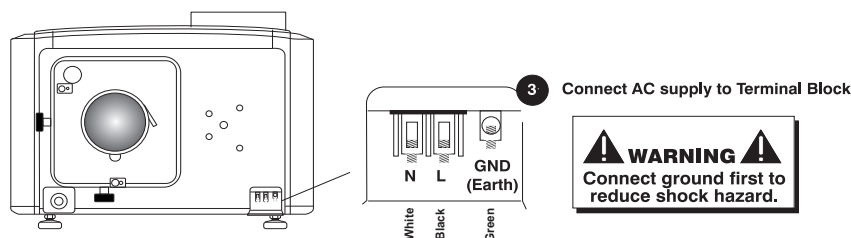

Figure 2-15 Steps to Connect AC Power to Terminal Block
3. Connect the AC power source to the terminal block, beginning with the ground lead first. See **Figure 2-15** for wiring details. Tighten screws securely.